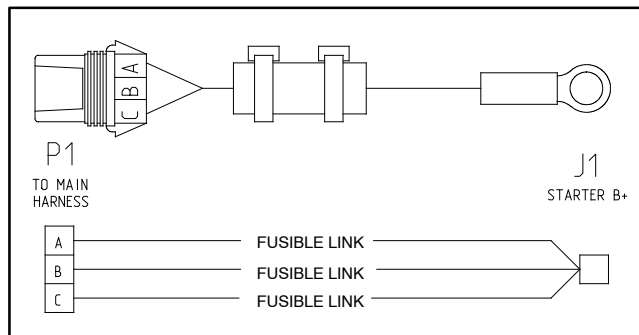

Figure 64
4. Use a multimeter to make sure that continuity exists between each terminal pin in connector P1 and connector J1 at the starter (Fig. 64). If any of the fusible links are open, replace the fusible link harness.